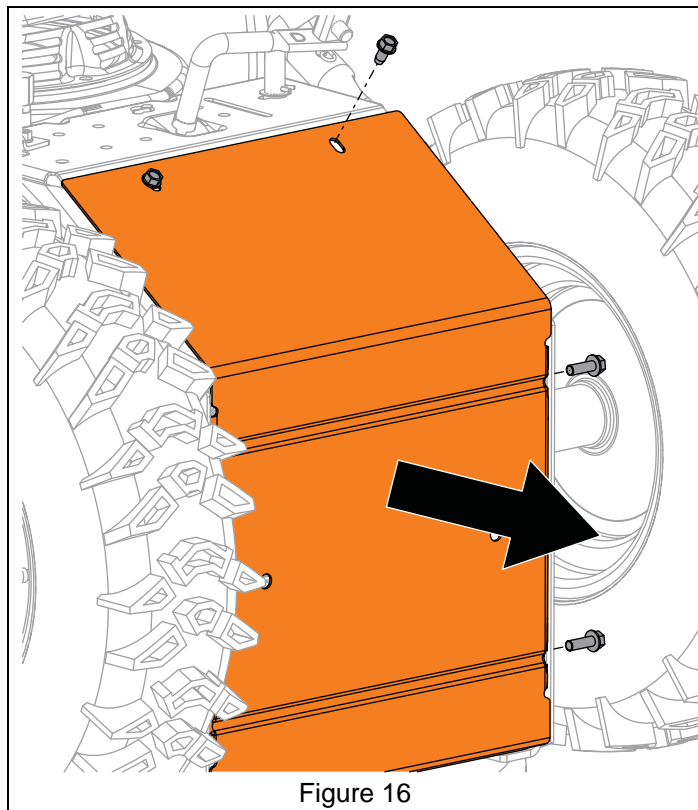

Figure 16
4. Remove hardware retaining bottom cover to frame and remove cover. See Figure 16.